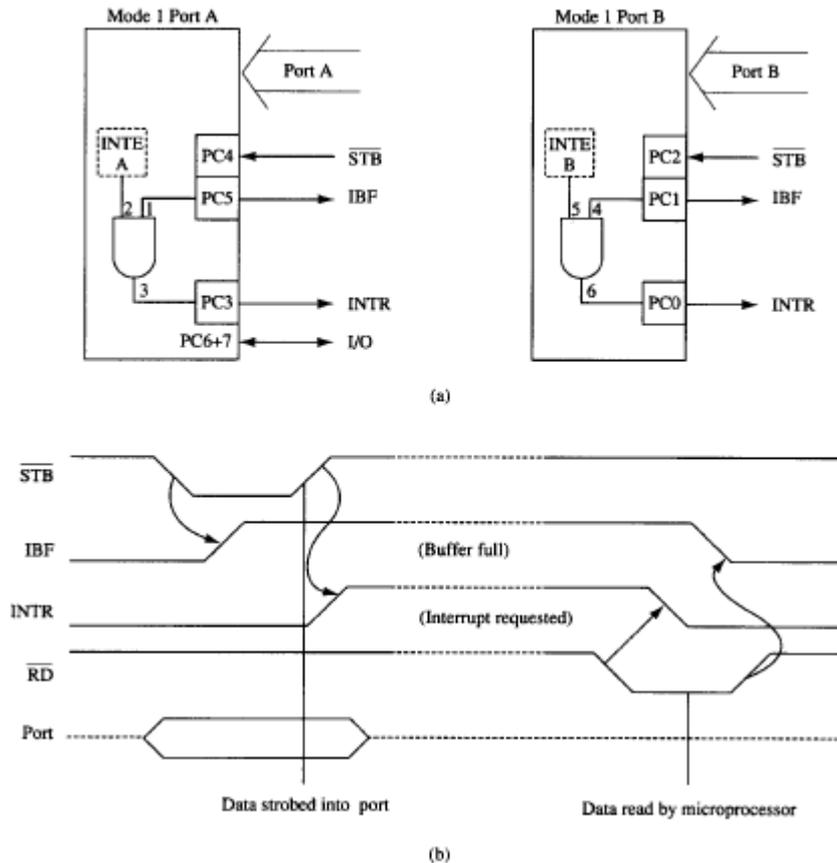

Figure 11-27:Strobed input operation of the 8255 a)internal structure and b)timing diagram
- Mode 1 operation causes port A &/or port B to function as latching input-devices (Figure 11-27).